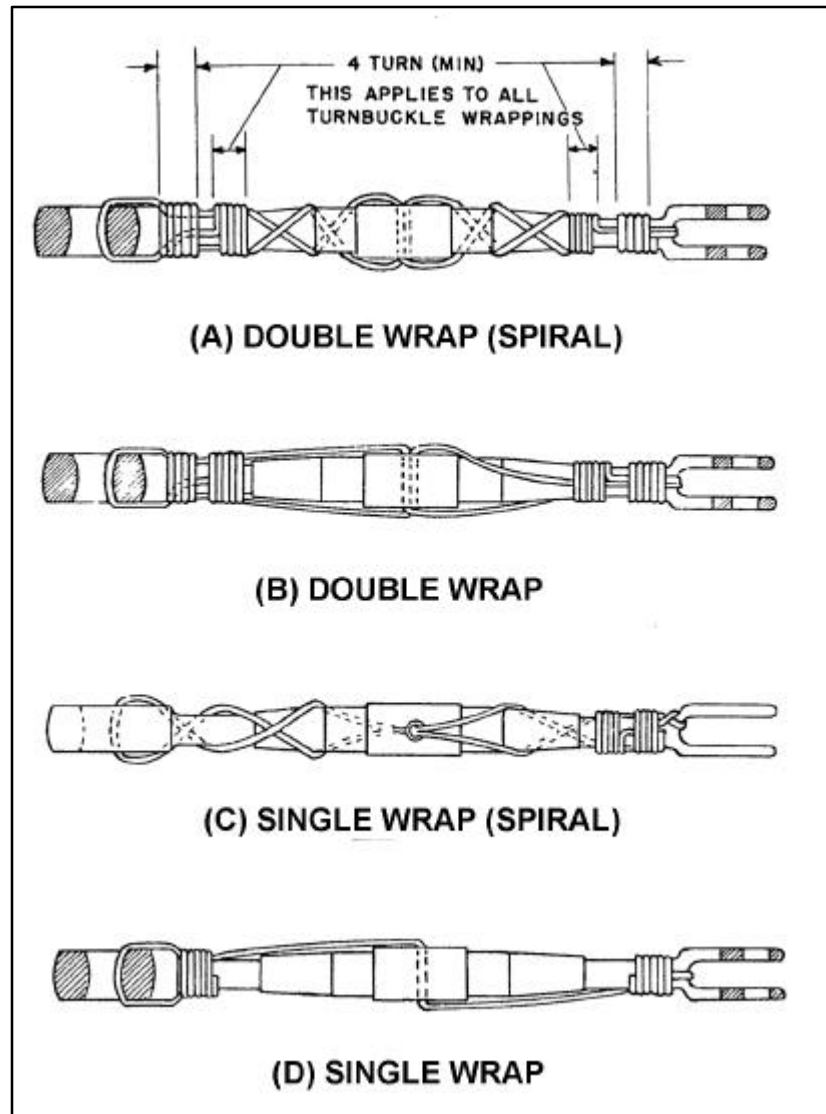

FIGURE 7-24. Safelying turnbuckles.
7-180. DOUBLE-WRAP METHOD. Of the methods using safety wire for safetying turnbuckles, the method described here is preferred, although either of the other methods described is satisfactory. The method of double-wrap safetying is shown in figure 7-24(A).
e. When a swaged terminal is being safetyed, pass the ends of both wires through the hole provided in the terminal for this purpose and wrap both ends around the shank as previously described. If the hole is not large enough to allow passage of both wires, pass the wire through the hole and loop it over the free end of the other wire, and then wrap both ends around the shank as previously described. Another satisfactory double-wrap method is similar to the previous method, except that the spiraling of the wires is omitted as shown in figure 7-24(B).
7-181. SINGLE-WRAP METHOD. The single-wrap methods described in the following paragraphs and as illustrated in figure 7-24(C) and (D) are acceptable, but are not the equal of the double-wrap methods.
a. Pass a single length of wire through the cable eye or fork, or through the hole in the swaged terminal at either end of the turnbuckle assembly. Spiral each of the wire ends in opposite directions around the first half of the turnbuckle barrel, so as to cross each other twice. Thread both wire ends through the hole in the middle of the barrel so that the third crossing of wire ends is in the hole, again, spiral the two wire ends in opposite directions around the remaining half of the turnbuckle, crossing them twice. Then, pass one wire end through the cable eye or fork, or through the hole in the swaged terminals, in the manner previously described. Wrap both wire ends around the shank for at least four turns each, cutting off excess wire. This method is shown in figure 7-24(C).